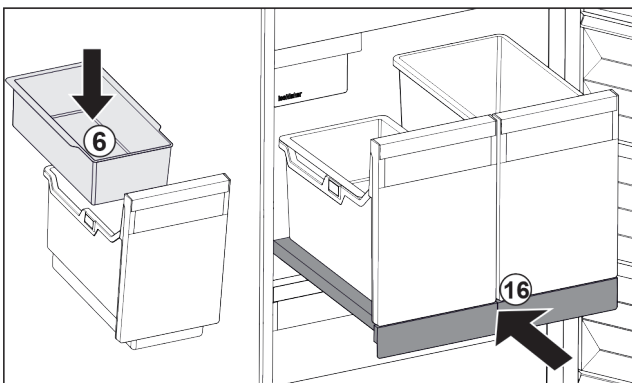

Fig. 102
- ▶ Insert hang-on tray Fig. 102 (6) for ice cubes.
- ▶ Slide in the pull-out board with (IceTower) container. Fig. 102 (16)